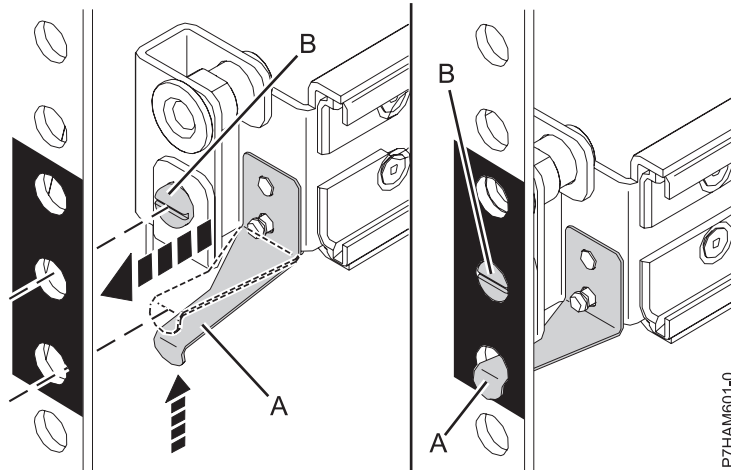

Figure 8. Mounting the rail to the front of the rack
- The tension clip (A) points toward the front of the rack and aligns with the bottom EIA hole that you marked previously, as shown in Figure 8 on page 10.
- c. Bend the tension clip (A) up and insert it into the bottom EIA hole that you marked previously, as shown in Figure 8. Ensure that the lip of the clip is brought fully through the hole and clasped against the bottom of the hole. Seat the alignment screw (B) in the middle EIA hole that you marked previously.
**Note:** There are two sizes of alignment screws (B). If your rack has round mounting holes, use the smaller alignment screw for each rail. If your rack has square mounting holes, use the larger alignment screw for each rail. Alignment screws are provided with the rack installation kit.